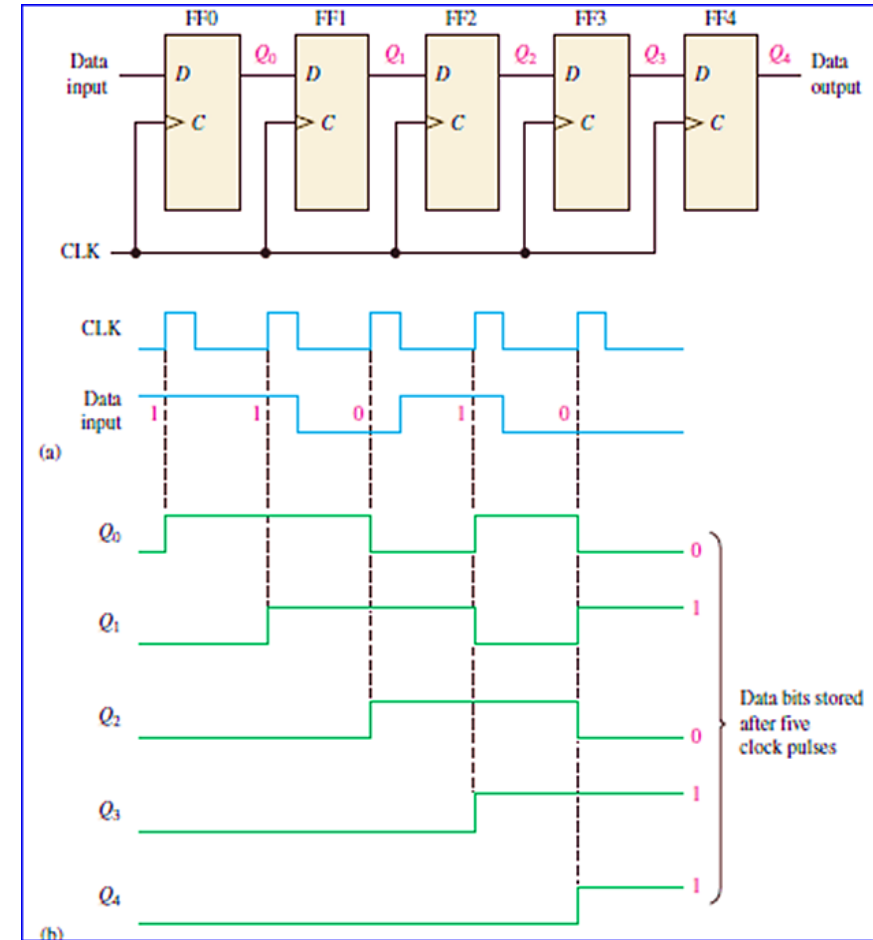

FIGURE 4
Show the states of the 5-bit register in Figure 4(a) for the specified data input and clock waveforms. Assume that the register is initially cleared (all 0s).
The first data bit (1) is entered into the register on the first clock pulse and then shifted from left to right as the remaining bits are entered and shifted. The register contains $Q_4 Q_3 Q_2 Q_1 Q_0 = 11010$ after five clock pulses. See Figure 4(b).